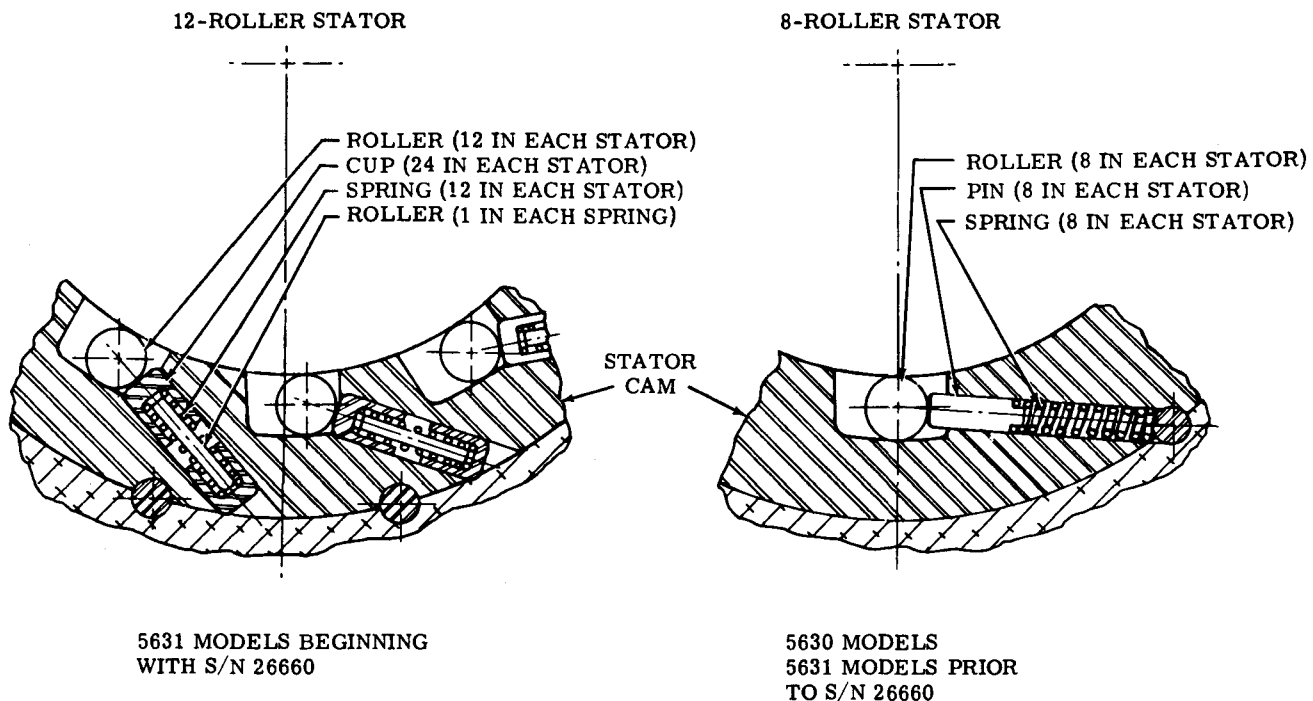

Fig. 6-8. Arrangement of stator free-wheel components—cross-section, front view
(1) Remove eight rollers, eight pins, and eight springs from each of two statos (fig. 6-8).
(2) Be sure that roller pockets, and the bores from which the springs and pins were removed are thoroughly clean.
(1) Install eight springs onto the smaller ends of eight pins (fig. 6-8).
(2) Install the assembled springs and pins, springs first, into the stator cam (fig. 6-8).
(3) Install eight rollers into the roller pockets in the stator cam (fig. 6-8). Use a small quantity of oil-soluble grease to retain the rollers until the stators are installed.
(1) Remove twelve freewheel rollers from each stator assembly (fig. 6-8)
(2) Remove 24 cups, 12 springs and 12 needle rollers from each stator (fig. 6-8).
(3) Be sure that roller pockets, and the bores from which the springs and cups were removed are thoroughly clean.
(1) Assemble two cups, a spring, and a needle roller for each of the freewheel roller positions (fig. 6-8).
(2) Install each of the assemblies (made in (1), above) into its bore in the stator cam (fig. 6-8).
(3) Install a freewheel roller into each of the stator cam pockets (fig. 6-8). Use a small quantity of oil-soluble grease to retain the freewheel rollers until the stator is installed.